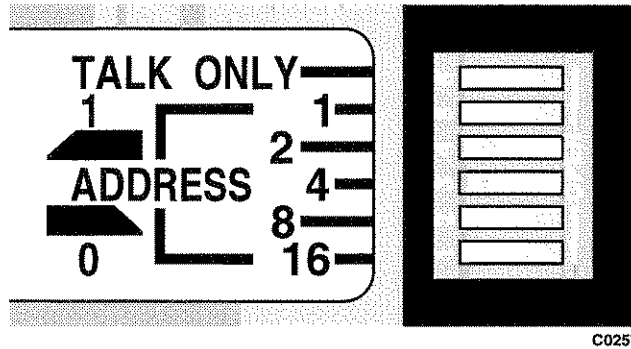

Fig. 2-3 Switches on the 2955's GPIB interface unit set to address 6 (2 + 4) and not to TALK ONLY
On the 2955's GPIB interface unit, check that the 2 and 4 switches are set on (not OPEN) to give an address of 6 (or any other address in the range 1 to 30) and that the TALK ONLY switch is set to OPEN. See Fig. 2-3.
- (17) Connect the Adapter's internal GPIB ribbon cable to the 2955's GPIB connector and fasten it using the lock screws provided.
- (18) On the 2955's GPIB interface unit, set the 2 and 4 switches to on (not OPEN) to give an address of 6 (or set any other address in the range 1 to 30). Set the TALK ONLY switch to OPEN. See Fig. 2-3.
- (19) Finally, switch on both the Adapter and the 2955 after ensuring that both voltage selectors are set to the correct range with correct fuses fitted. Check that the GPIB address is correct. Press the CRTS key and check that the self test sequence commences.